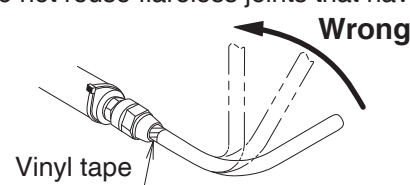

Fig. 13
- If connecting bent sections of piping bend the piping in advance, and then attach flareless joints and connect the piping sections. After tightening, do not bend the piping. (See Fig. 13)